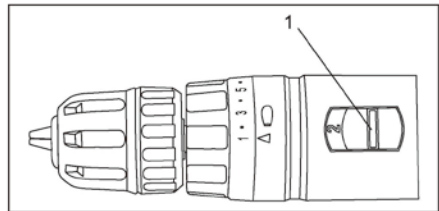

Fig. 7
Set the speed-control switch (1) to the desired speed (Fig. 7). Slide the speed-control switch FORWARD for low-speed operation. Slide the speed control-switch BACK for high-speed operation.